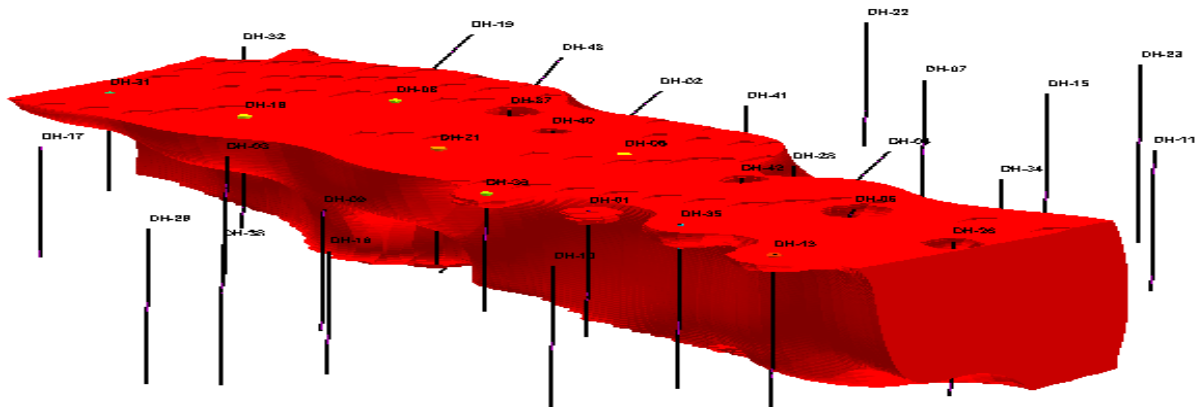

Figure 1. Solid Model Isosurface: Voxels < MCL = Invisible Leaving Just The Voxels Above MCL
- Cutoff Levels:** When plotting contamination plumes, the values below a threshold level are rendered transparent (Figure 1). Typically, these thresholds represent state or federal MCL (Maximum Contaminant Levels). It is important that these thresholds be provided by the client. This is not to say that multiple thresholds cannot be used (Figure 2), in which case we need to know what they are.